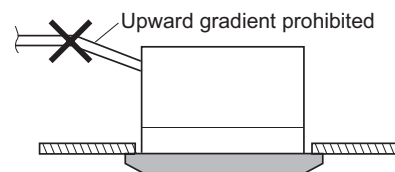

Fig. 2-152
- Do not install the pipe with an upward gradient from the connection port. This will cause the drain water to flow backward and leak when the unit is not operating. (Fig. 2-152)